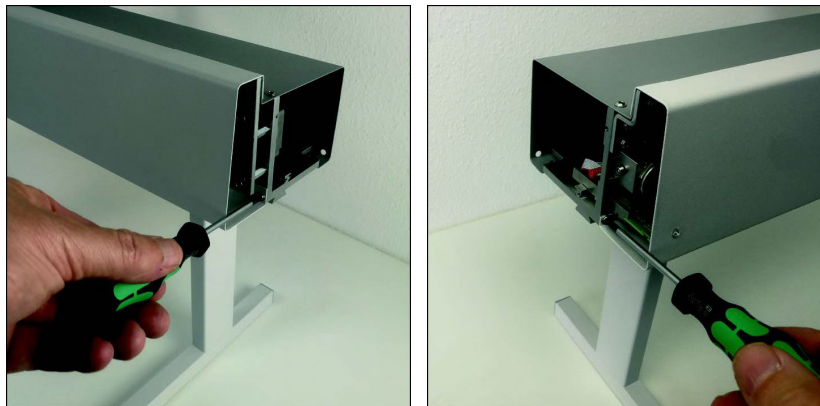

Figure 113: X-beam Front Cover Assembly 2
2. Using a Torx Tx10 screwdriver, fasten the lower right and left screw positions as indicated in Figure 113.